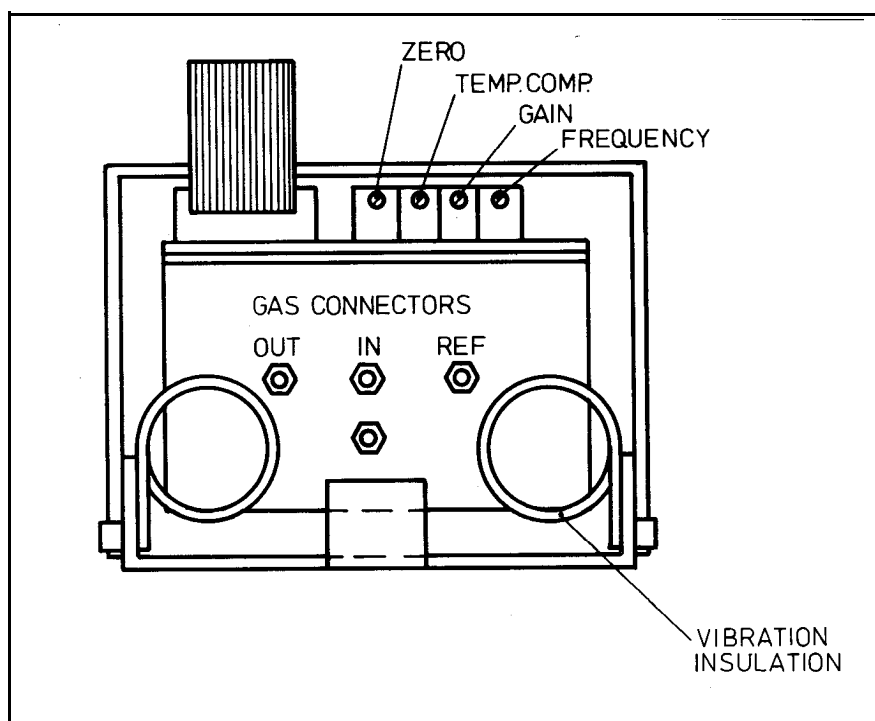

Figure 7.2 O₂ measuring unit adjustments
- b) Let the monitor draw in room air and adjust the voltage to zero with the O₂ measuring unit trim resistor designated 'ZERO' (see Figure 7.2) in the O₂ module pc board. The potentiometers are located at the same side of the measuring unit as the tubing connectors.
- b) Sample 100 % oxygen and adjust the measuring unit output to between 7.7 V and 8.3 V with the trim resistor designated 'Gain' (see Figure 7.2). If the voltage will not reach to 7.7 V it can be left between 5.0 V to 7.7 V.